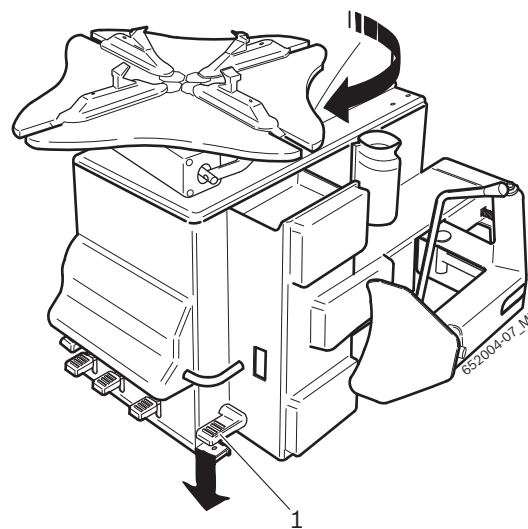

Fig. 2: Check rotation direction.
For a correct functioning of TCE 4225 it is extremely important that, when the locking flange pedal shown in Fig. 2 (1) is pressed, the locking flange (Fig. 2) rotates clockwise.